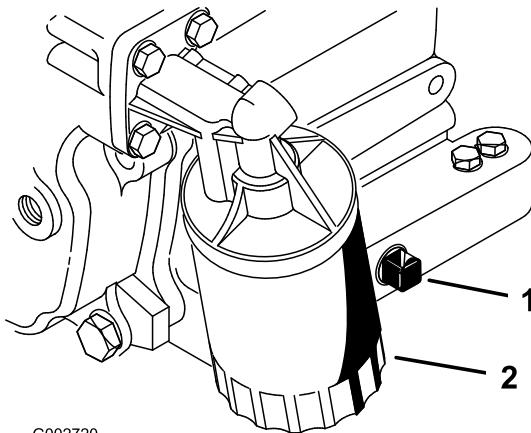

Figure 25
- Remove the drain plug (Figure 25) and let oil flow into a drain pan. When the oil stops, install the drain plug.
- Remove the oil filter (Figure 25). Apply a light coat of clean oil to the new filter gasket.